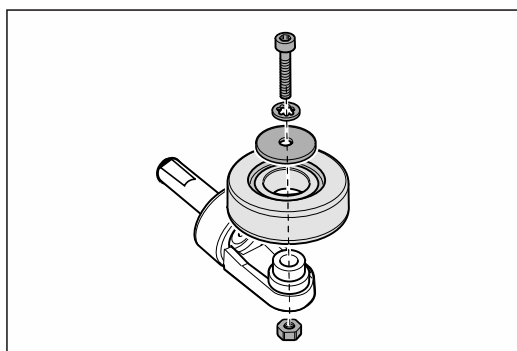

Fig. 61 Remove the screw with the washers and nut in the center of the wheel and take off the rear wheel. Assemble in reverse sequence.
- 6 Release the screw in the center of the wheel and remove the screw, washers and nut (fig. 61). Ensure that you do not lose the nut.